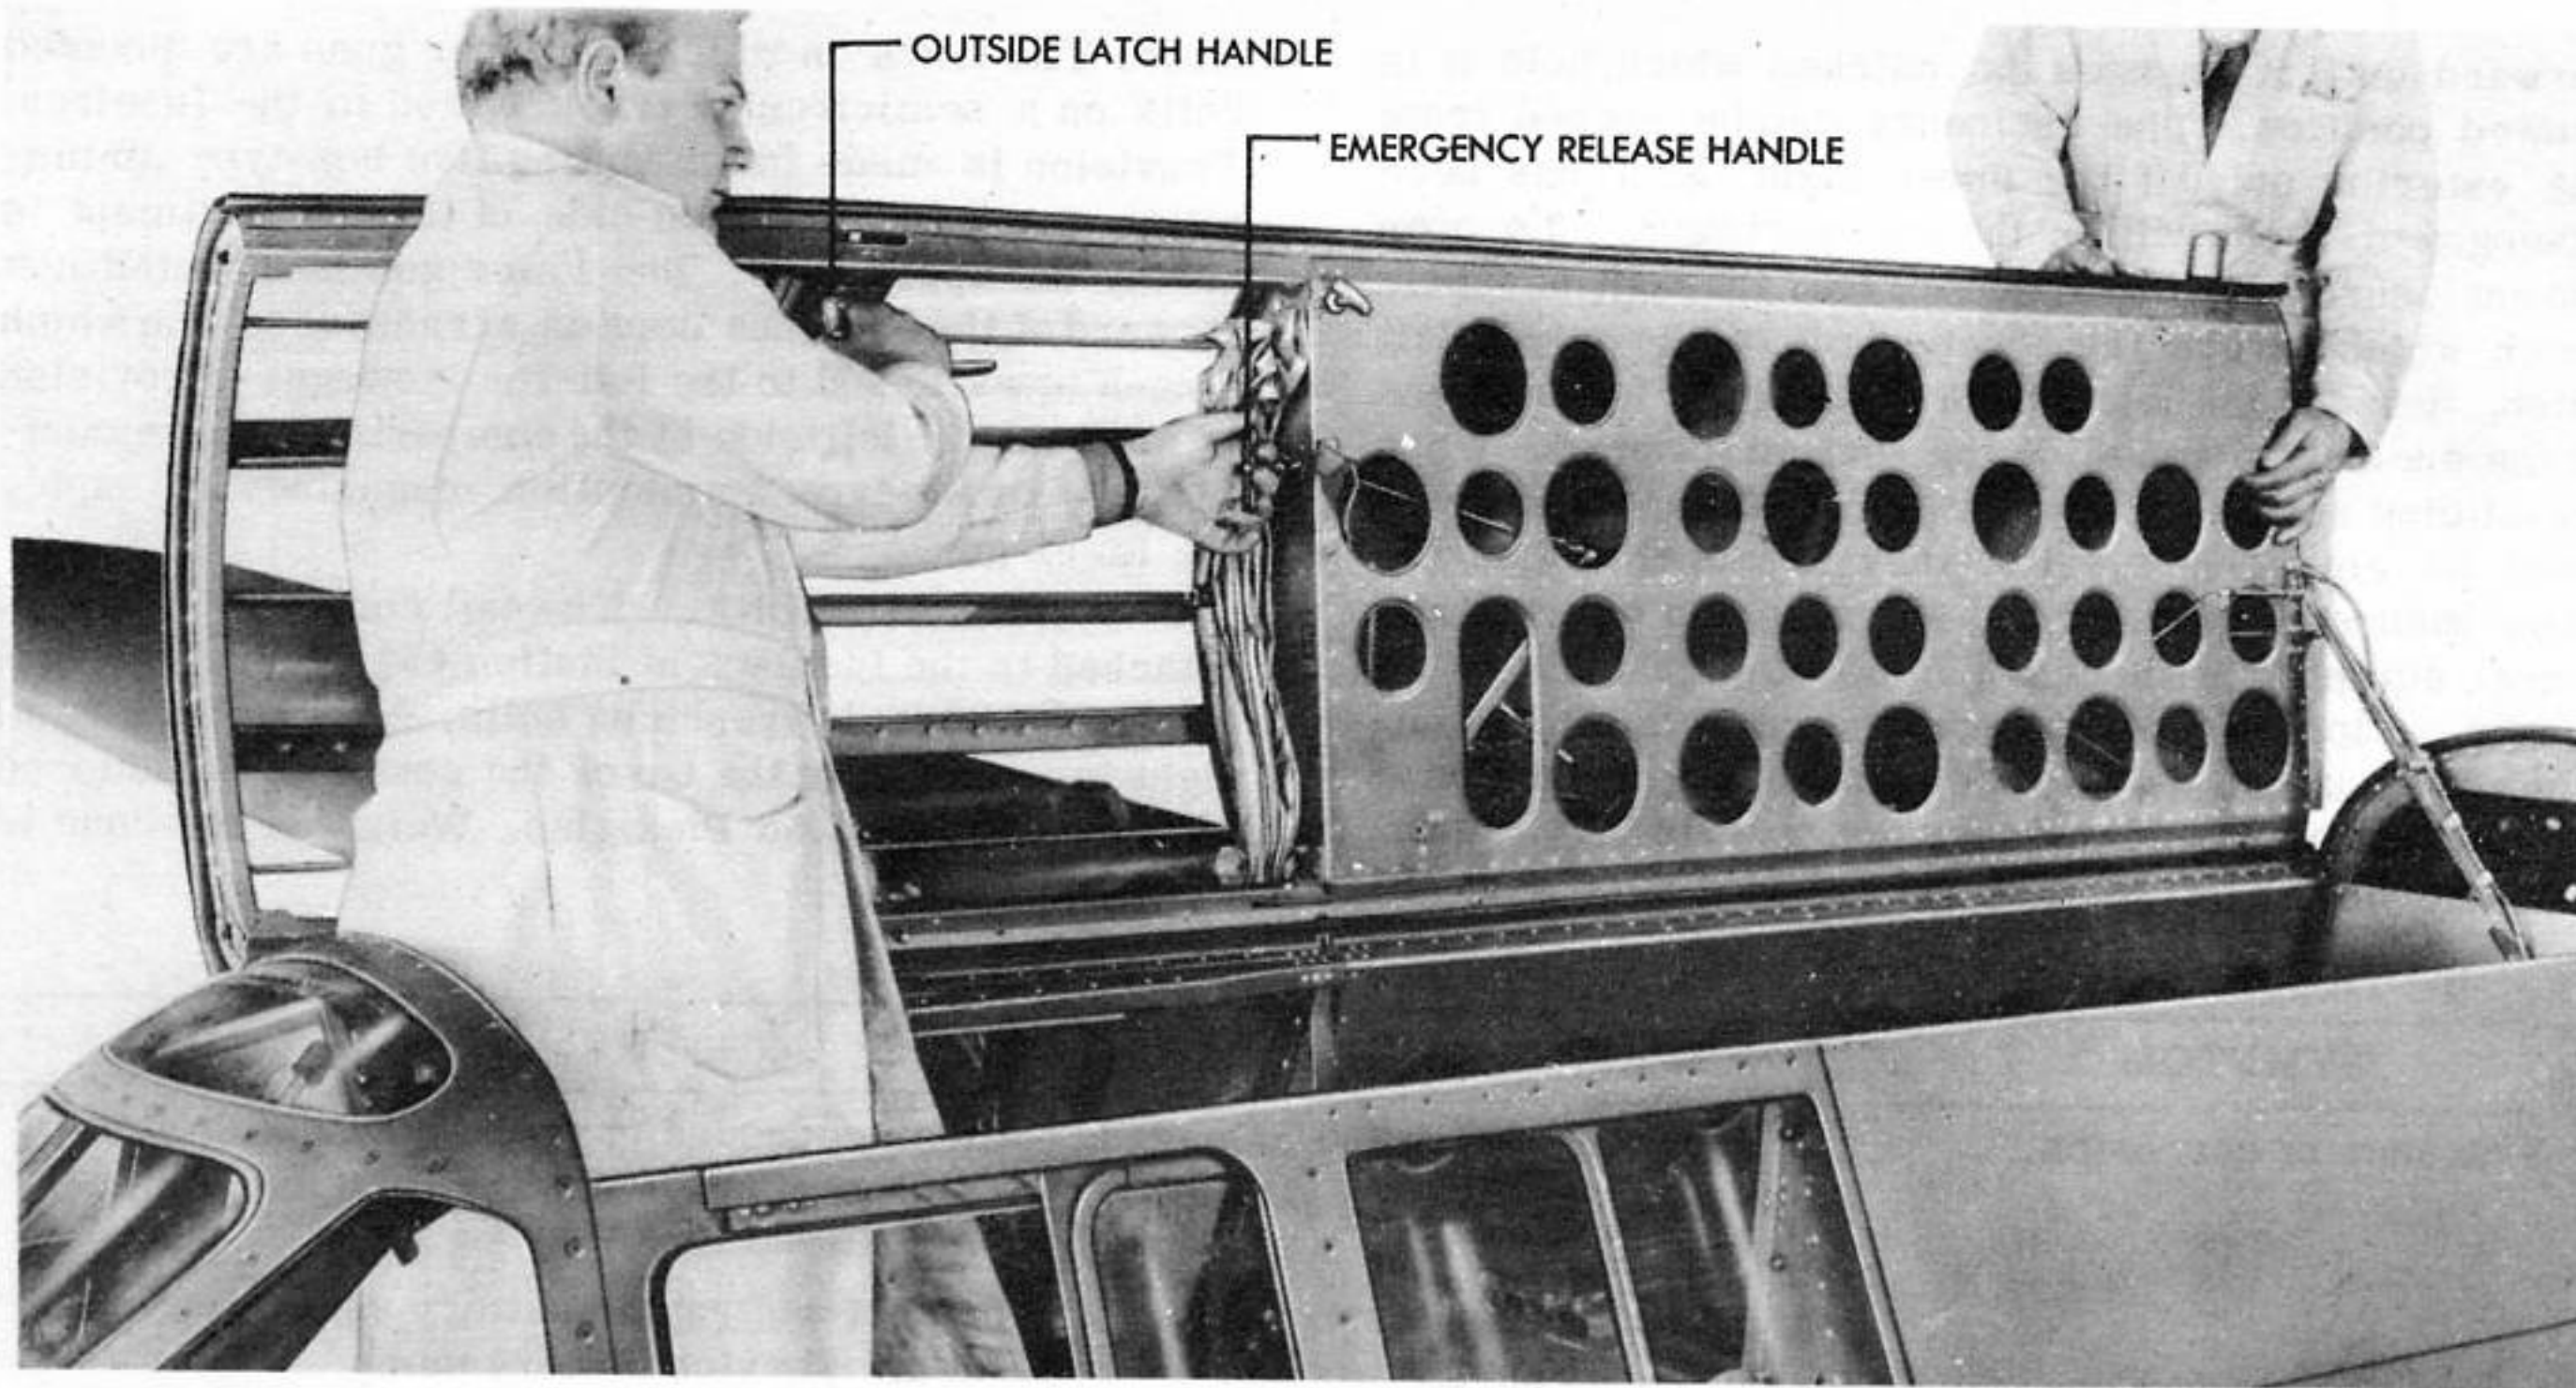

Figure 51 - REMOVING PILOT'S ESCAPE HATCH
(See figure 51.)
(4) INSTALLATION OF PILOT'S ESCAPE HATCH. (See figure 51.)